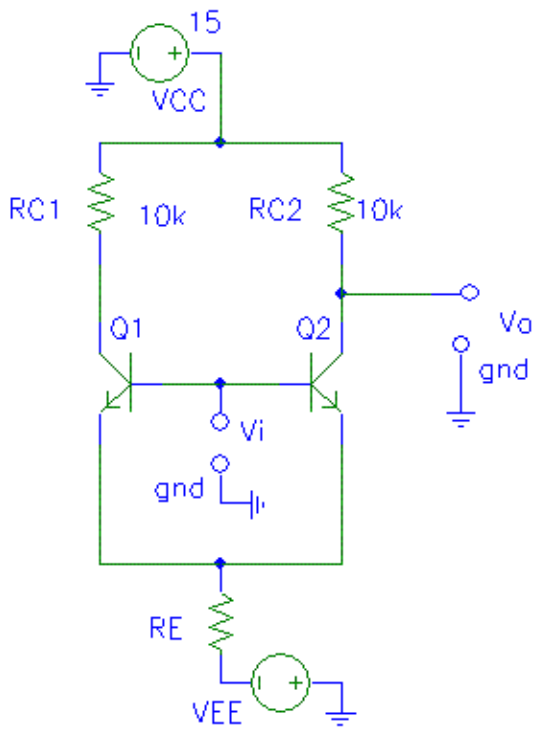

Figure 1
1. For the circuit of figure 1 obtain an expression for the common mode voltage gain.